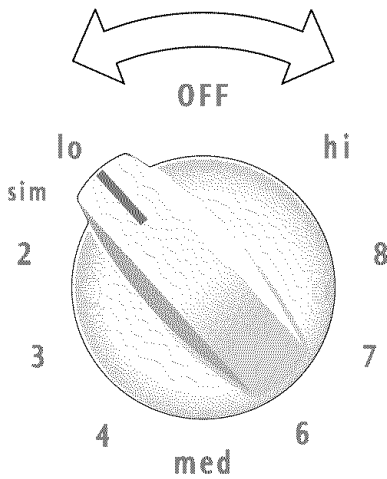

Fig. 1
2. Push in and turn the surface control knob in either direction to the desired setting (See Fig. 1). Start most cooking operations on a higher setting and then turn to a lower setting to finish cooking. The control knobs do not have to be set exactly on a particular setting. Use the settings as a guide and adjust the control knob as needed.
1. Open oven door completely (horizontal with floor - See Fig. 1).